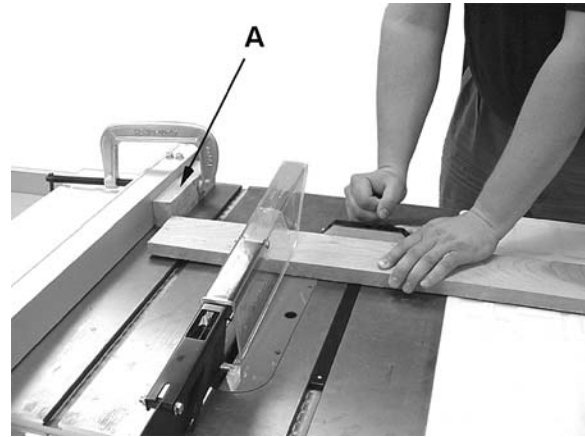

Figure 38
- ❑ Do not use the miter gauge and rip fence in the same operation unless provision is made by use of a facing board on the fence so as to allow the cutoff section of the workpiece to come free before the next cut is started (See Figure 38).
Crosscutting should **never** be done freehand nor should the fence be used as an end stop unless an auxiliary block (A, Figure 38) is clamped to the front of the blade area such that the cutoff piece comes free of the block before cutting starts.